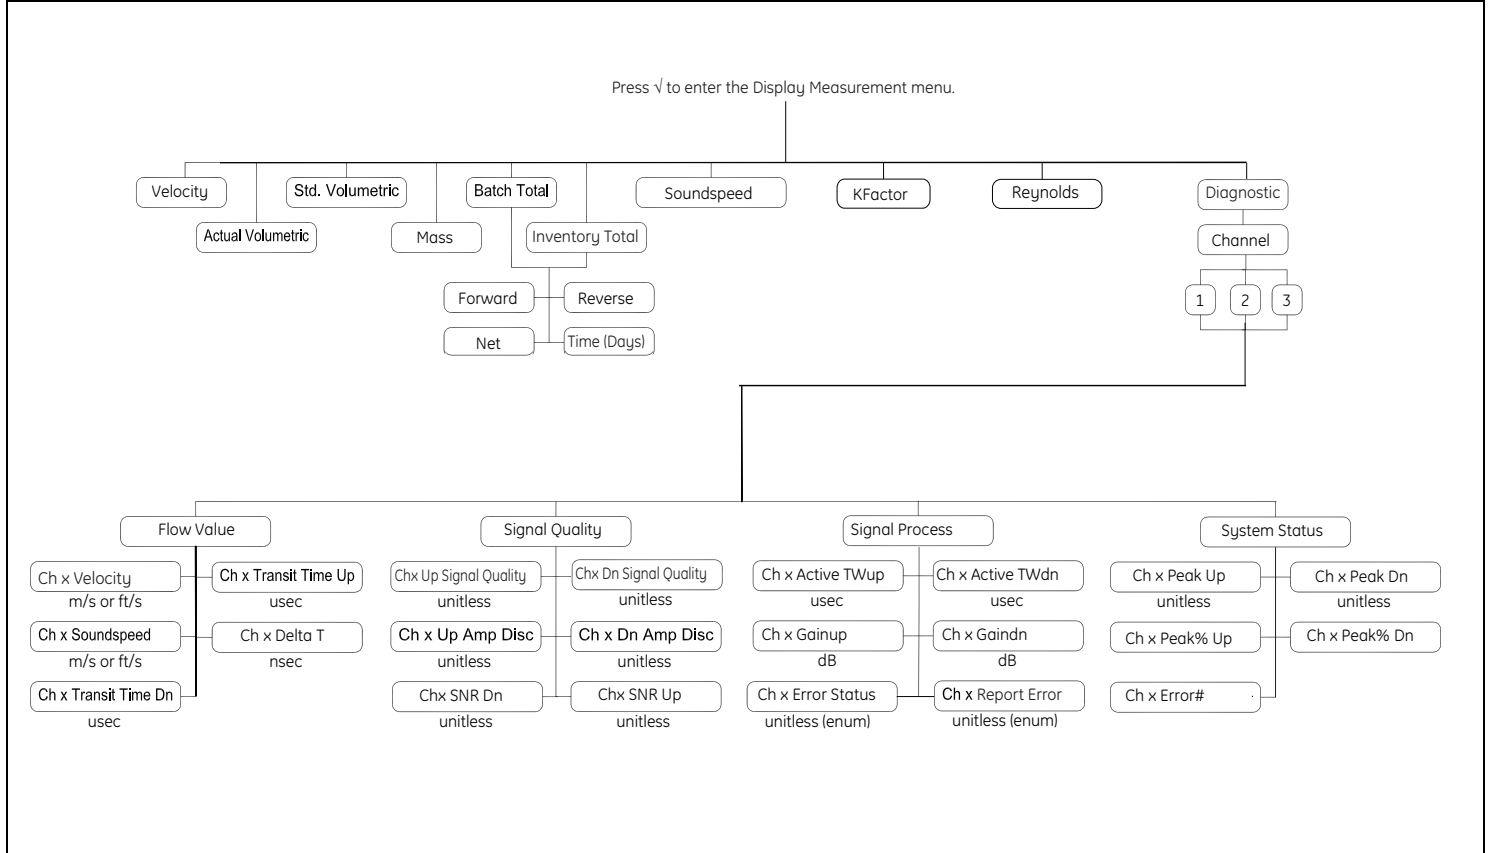

Figure 23: Display Measurement Menu Map
- Figure 23, “Display Measurement Menu Map,” on page 81